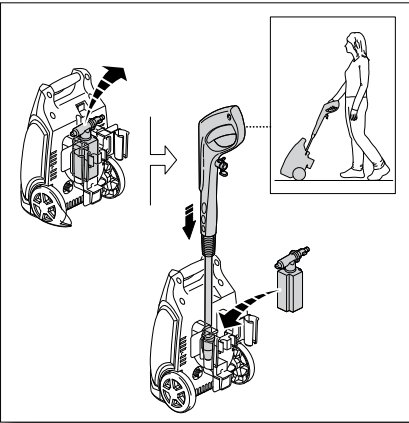

Fig. 25
- Wrap the power cord around the accessory holder using the extension tabs at the 3:00 & 9:00 position and the L-shaped power cord holder/tab located at the 6:00 position (Fig.25).